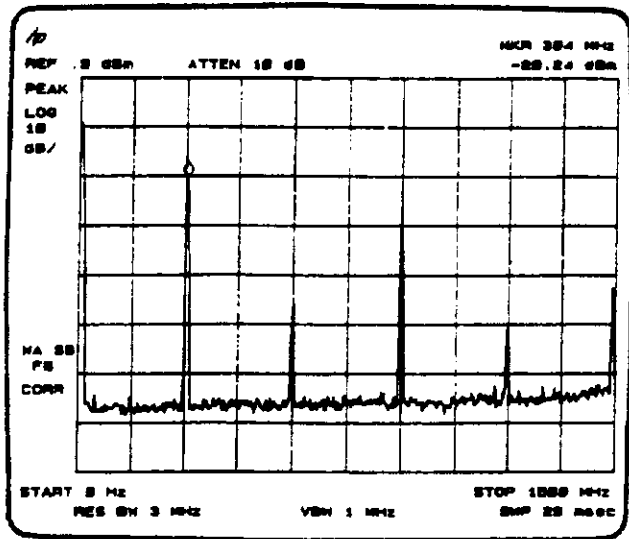

Figure 2-1
2. Press **PEAK SEARCH** to place a marker at the highest peak on the display. The **[NEXT PK RIGHT]** and **[NEXT PK LEFT]** softkeys move the marker from peak to peak. Press **[NEXT PK RIGHT]** to move the marker to the 299.9-MHz calibration signal. See Figure 2-1.